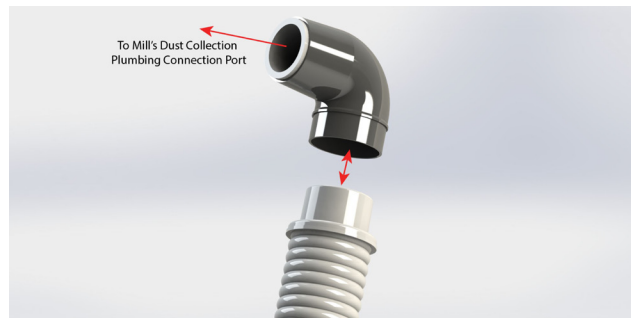

Fig. 7
- B. Connect the 2.5" white hose the end of the elbow without the bushing in it (Fig. 7).